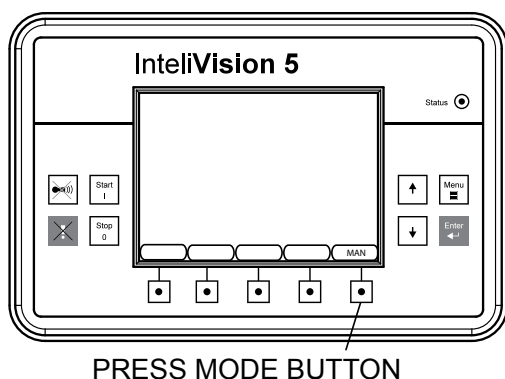

Figure 25. Mode Button (Manual)
- Press the MODE button (Figure 25) on the Digital Controller Display and select manual mode (MAN) with the arrow keys. Press Enter key when MAN is highlighted on the screen.